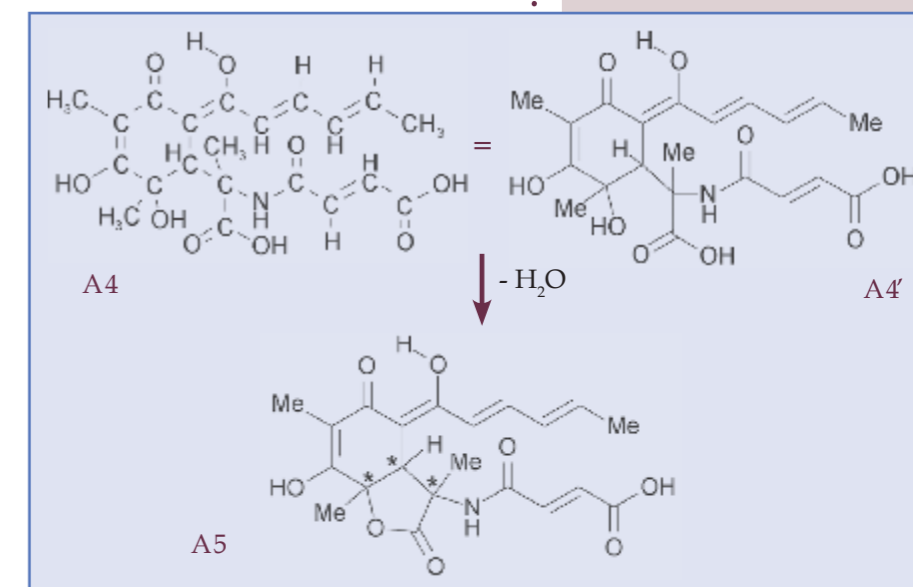

Fig. 5: Illustration of the established still flat structure of the new agent sorbicillactone A
Advanced NMR investigations, using the so-called HMBC method, have the ability to explore proton-carbon correlations across multiple bonds, thus providing information as to which locations on the 6-ring structure (A1) the two side structures (A2 and A3) were connected, and suggested the total structure A4 or, in a clearer notation, A4' (Fig. 5). Here each corner of the hexagon, each point in the zigzag chain, denotes a C atom.
Indeed, the structure was not complete. Again mass spectrometry was used clearly demonstrating that the actual structure of the new natural product had to be lighter than the postulated structure A4, namely be 18 mass units. 18 is exactly the mass of a molecule of water. Thus the actual natural product is characterized by the loss of an  $H_2O$  molecule, and the formation of a consecutive additional 5-membered ring with an integrated oxygen (O), a lactone ring. (Fig. 5, A5).
However, is the **A5** structure now totally complete? Hardly, because the molecule really can't be as flat as depicted in Fig. 5. In particular the three carbon atoms highlighted with a \* have their four partners arranged in four different directions in space, corresponding to a tetrahedron. This raises a question: in which directions in space are the two methyl groups (Me) and the hydrogen (H) located at the 6-5-ring system pointing? Upwards or downwards? Or verbalized in the language of the chemist: